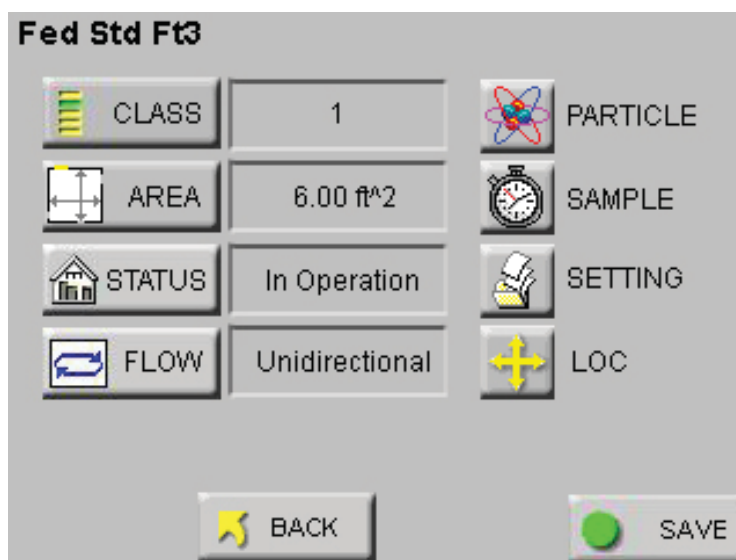

Figure 6-81 Report Setup Screen
- Press the SETUP button; the Report Setup screen displays as shown in Figure 6-81.